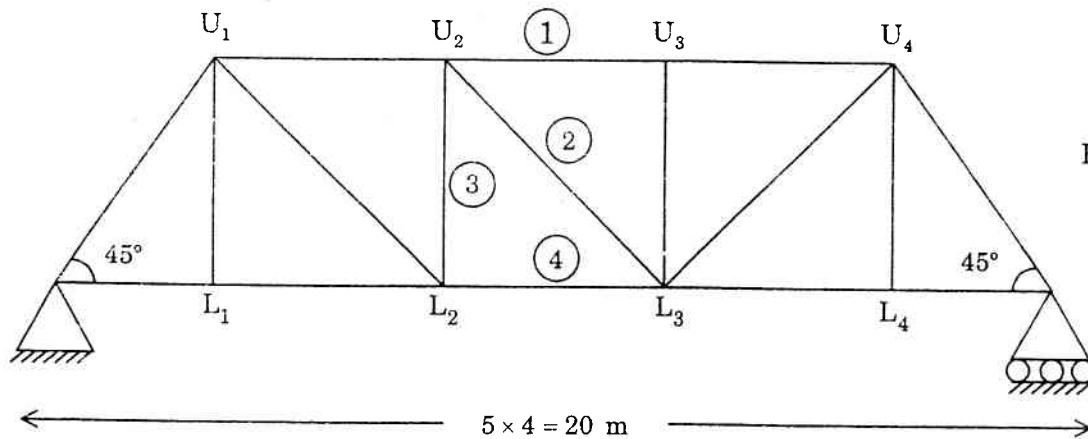

Fig. 6.
16. Determine the maximum forces in the members 1, 2, 3 and 4 of the truss shown in Figure 6, when a uniformly distributed load of 30 kN/m longer than the span traverses along the girder.